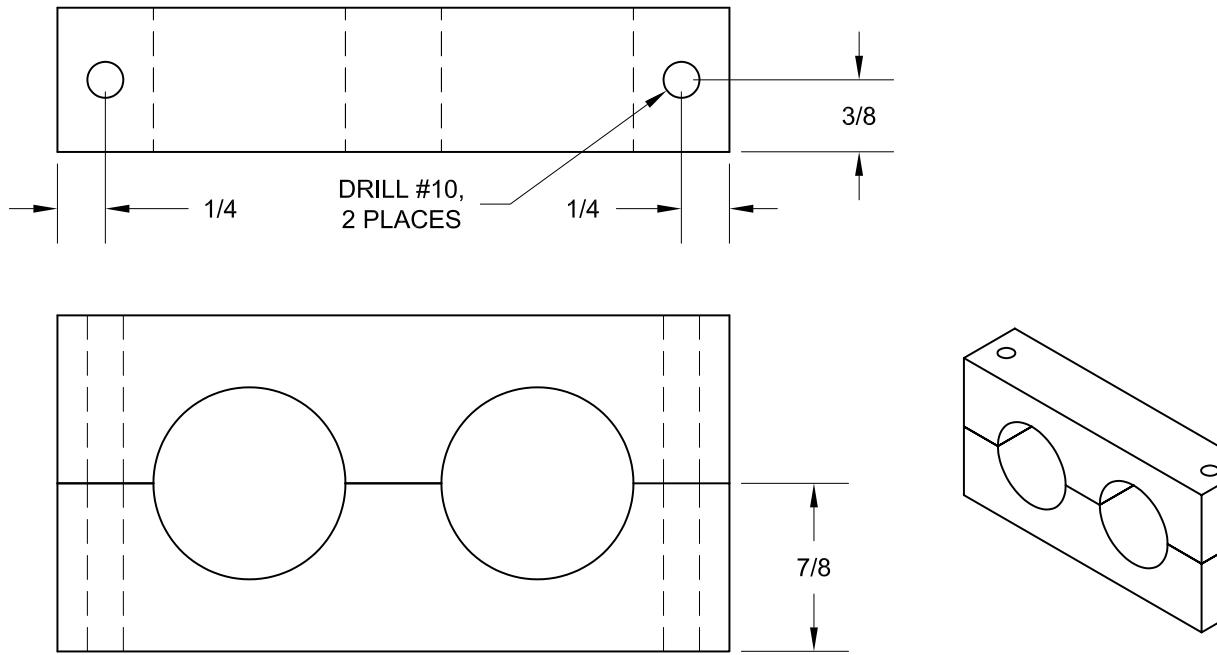

FIGURE 1: MODIFYING THE F-1039B BEARING BLOCK
Step 2: Cut the F-6115 Rudder Pedal Bearing Block in half as shown in Figure 1.